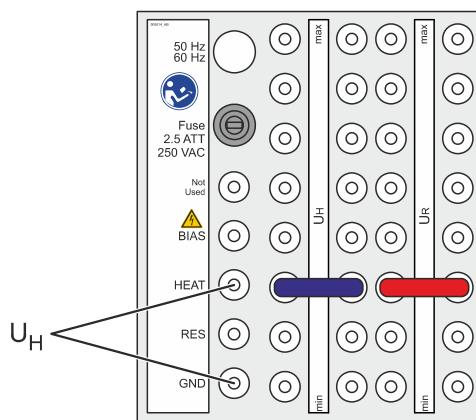

Figure 126: Measuring thyatron heating voltage
3. Use the TRMS voltmeter to measure the heating voltage of the thyatron (U_H) between the jacks GND and HEAT (see Figure 126).